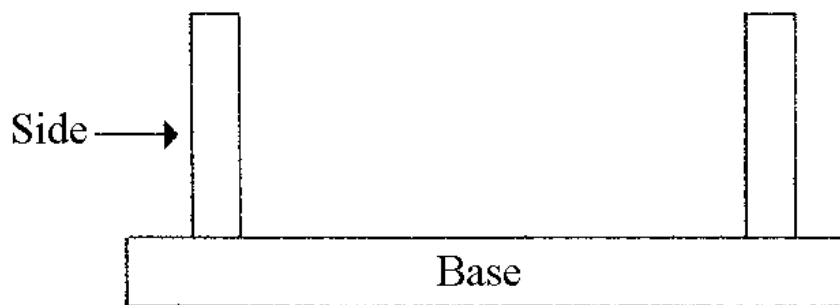

Fig. 4
27. Figure 4 shows a vertical section through a mould box for a small pre-cast concrete lintel. Complete the drawing to illustrate a method used to prevent the sides from spreading when it is filled with concrete.